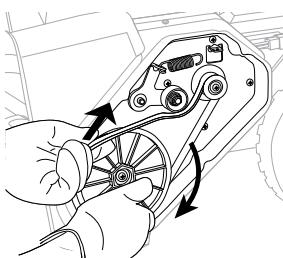

Fig. 14D
5. Replace a new belt. Rotate the new drive belt first around the motor pulley, then around the auger pulley. Slowly turn the auger pulley clockwise to drive the belt inwards (Fig. 14D).